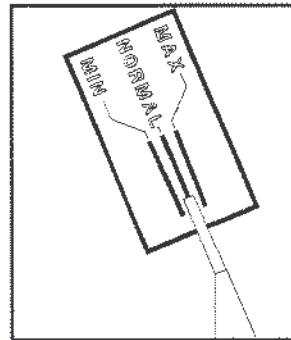

Figure 19-3. Point B, check mark
1. Support the MEWP on outriggers (platform empty) with boom horizontal and jib totally out (refer to fig. 19-3). Guide the booms from the ground.
2. Cautiously add a 290 kg (639 lb.) load (refer to fig. 19.3). The motor must stop.